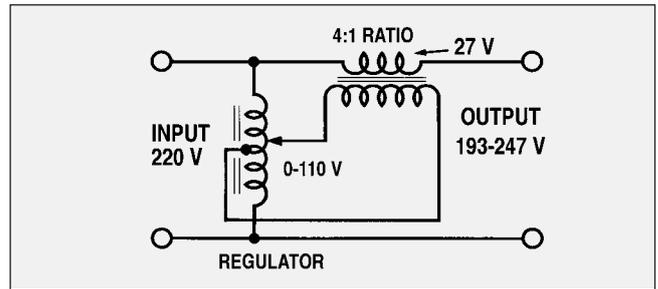

Fig. 45 - Buck-and-boost circuit
**Buck-and-boost circuit (Fig. 45)**